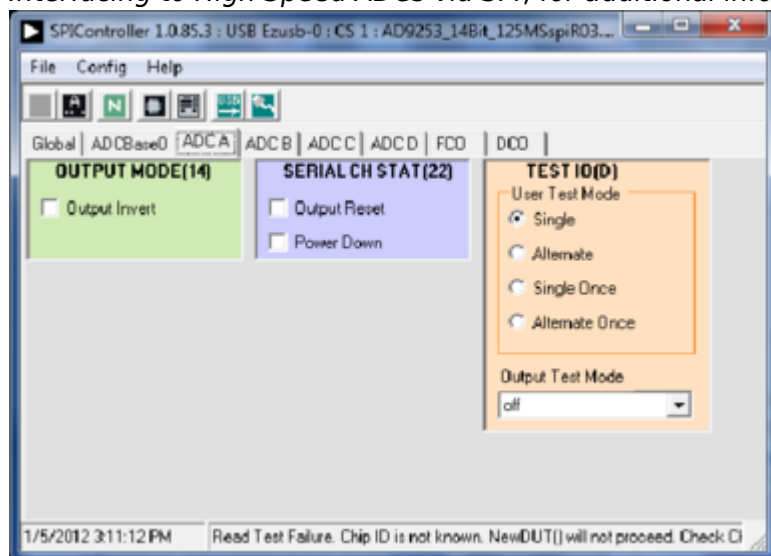

Figure 10. SPI Controller, Example
- Note that other settings can be changed on the **ADCBase 0 tab** (see Figure 9) and the **ADC A**, **ADC B**, **ADC C**, and **ADC D** tabs (see Figure 10) to set up the part in the desired mode. The **ADCBase 0** tab settings affect the entire part, whereas the settings on the **ADC A**, **ADC B**, **ADC C**, and **ADC D** tabs affect the selected channel only. See the appropriate part data sheet, the AN-878 Application Note, *High Speed ADC SPI Control Software*, and the AN-877 Application Note, *Interfacing to High Speed ADCs via SPI*, for additional information on the available settings.